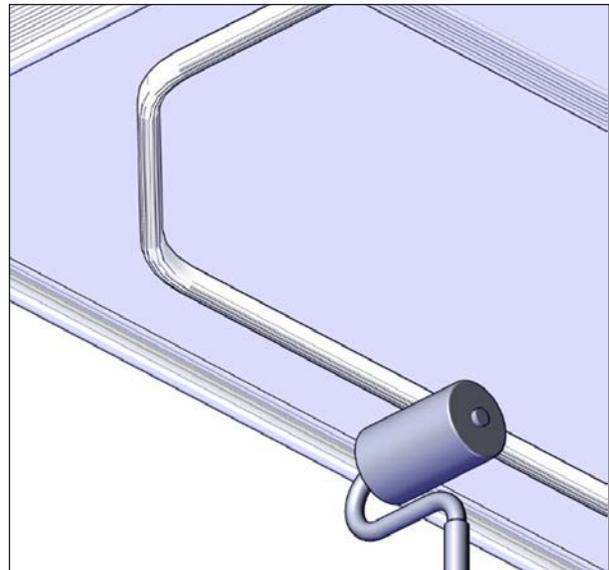

FIGURE 57: APPLY PRESSURE WITH ROLLER
13. Once satisfied that the seal is released, raise the cover 36" (91 cm) high. Apply a minimal pressure of 15 psi (103 kPa) on the seal with the roller as shown in Figure 57 to properly bond the adhesive to the underside of the cover.